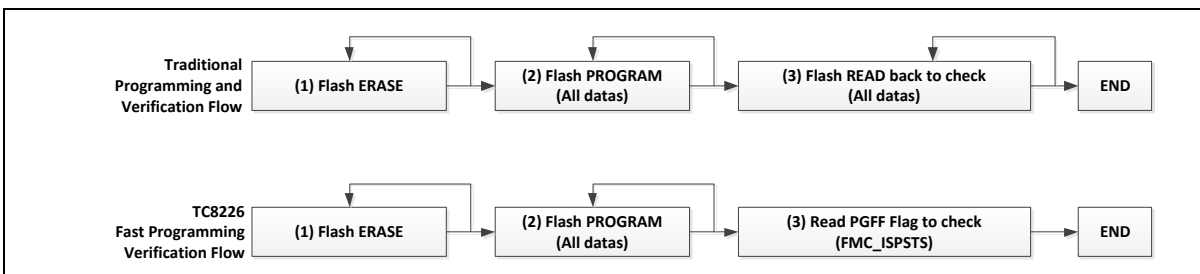

Figure 6.4-18 Verification Flow
In traditional Flash updated operation, the Flash memory has to perform three steps to complete the Flash memory updated procedure, (1) Flash ERASE, (2) Flash PROGRAM, and (3) Flash READ back all of data to check the correction. In the M471V/M471K/M471C series, it only reads FMC_ISPSTS to check PGFF flag in Step (3) without reading data back to confirm. Figure 6.4-18 compares traditional programming verification flow and fast programming verification flow.